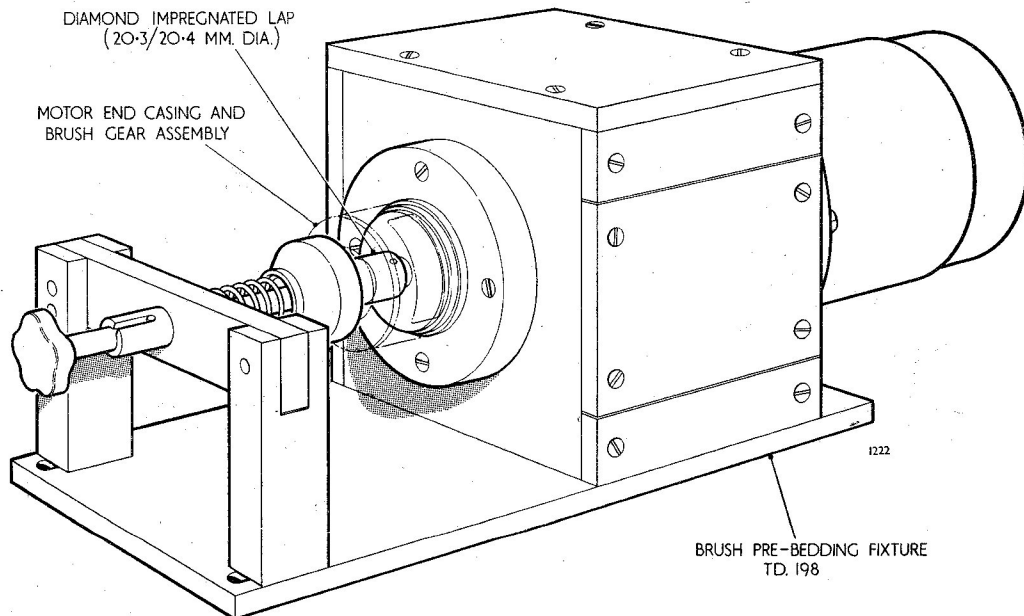

Fig. 3. Brush pre-bedding fixture
brush bedding fixture TD.198, fig. 3. Lift the brush fingers and insert a brush into each box. Secure with cheesehead screws (31) and shakeproof washers (32). Tighten the end cap of the brush bedding fixture.
(2) Connect a 26V d.c. supply to the slave motor and run for a minimum period of 2 minutes or until the brushes are bedded over their full width of arc with at least 80 per cent of their face areas making contact with the diamond impregnated lap. The running time will depend in part on the length of time that the lap has been in use.
(3) Remove the brush gear assembly from the fixture, taking care not to chip the brushes. Remove each brush and identify it with the box in which it was fitted.
(4) Clean out all carbon dust from the brush boxes with dry compressed air.